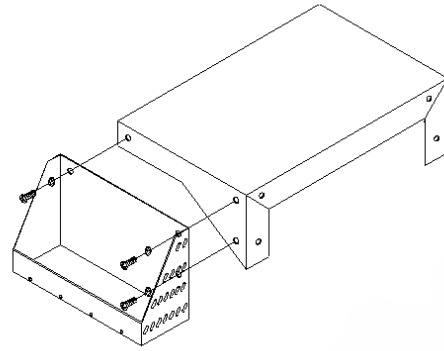

Figure 1
1. Attach side condiment holder to left side shelf by using $\frac{1}{4}$ " x 15mm Philips head screws. (Fig.1)